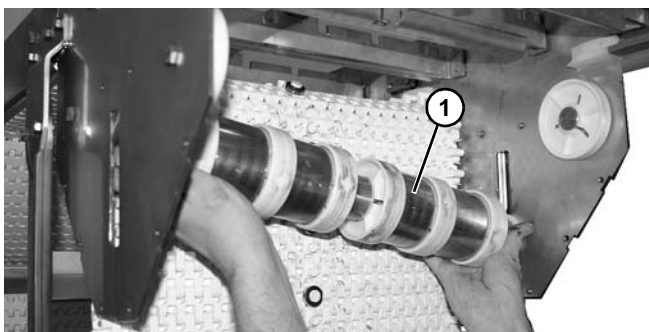

Figure 93
8. Tilt one end down and the opposite end upward, and remove gravity take-up assembly (**Figure 93, item 1**).